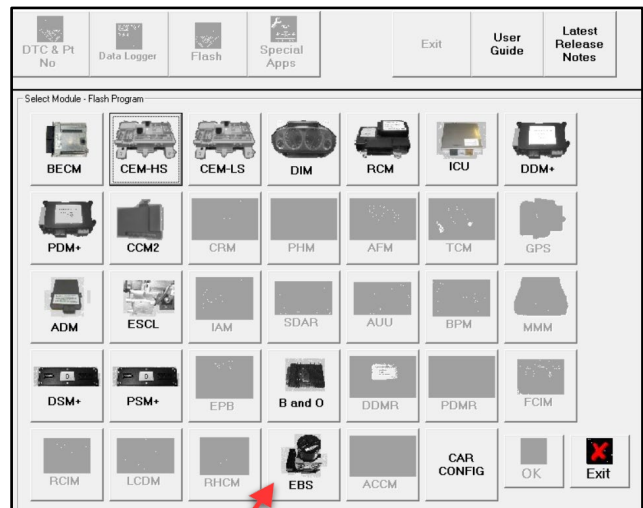

Figure 10
19. Press "ALT" on the keyboard and click "EBS" (refer to Figure 10).